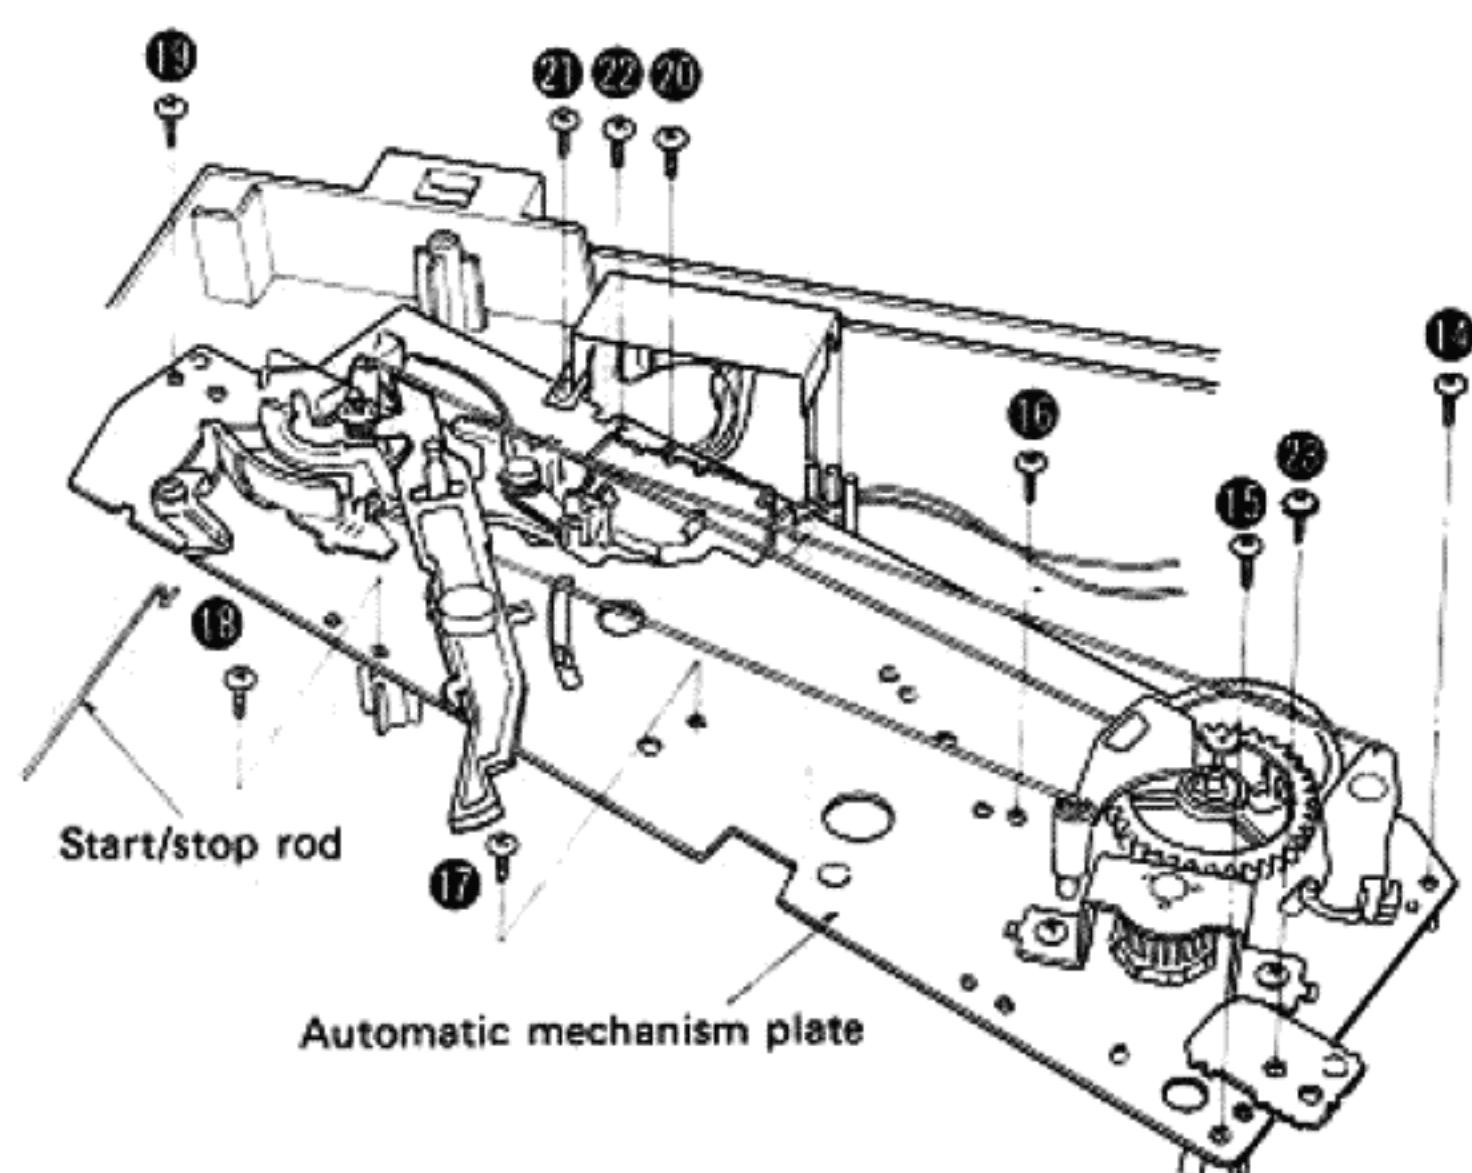

Fig. 4
2. Remove the 7 setscrews (⑩~⑯) of the automatic mechanism plate, the setscrew ⑯ of the output terminal shielding plate, the setscrew ⑰ of the earth terminal, and ⑱ of the earth circuit P.C.B. (Fig. 4).